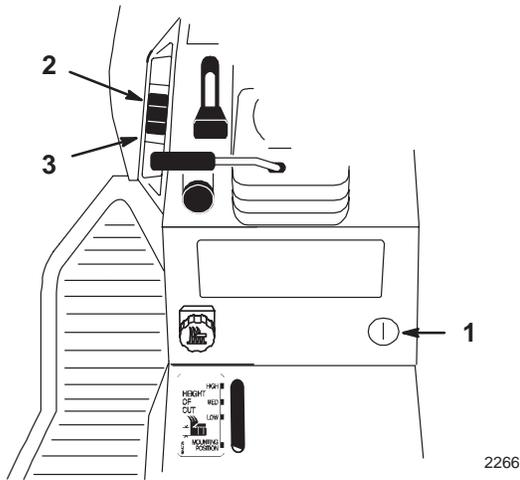

Figure 28
The attachment power lift (on some models) (Fig. 28) is used to raise and lower attachments.
1. Turn key to the On or Run position (Fig. 28).
2. Push the lift switch up to raise the attachment (Fig. 28). This will lift and hold the attachment in the raised position.
1. Turn the key to the On or Run position (Fig. 28).
2. Push the lift switch down to lower the attachment (Fig. 28).